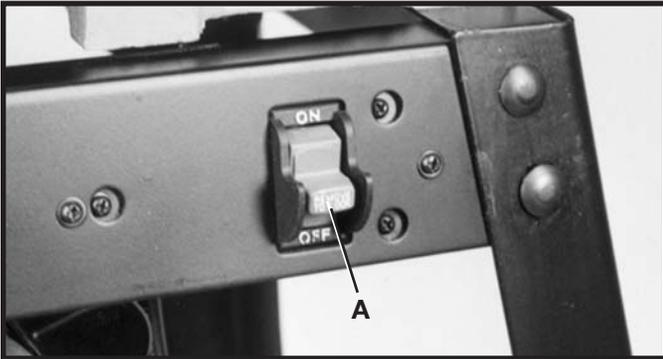
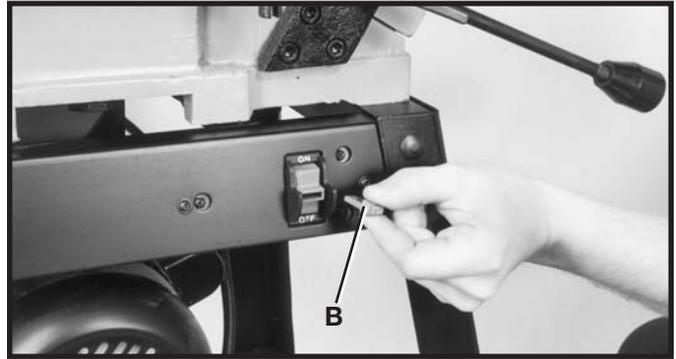

Fig. 33
Fig. 34
1. The on/off switch (A) Fig. 33 is located on the front of the jointer. To turn the machine "ON", move switch (A) up to the "ON" position.
**IMPORTANT:** When the tool is not in use, the switch should be locked in the "OFF" position to prevent unauthorized use. To lock the switch, grasp the switch toggle (A) Fig. 33 and pull it out of the switch. With the switch toggle (B) Fig. 34 removed, the switch will not operate. However, should the switch toggle be removed while the saw is running, the machine can be turned "OFF," but cannot be restarted without re-inserting the switch toggle (B).